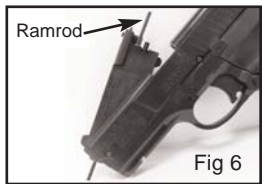

Fig 6
- Check to make sure the barrel is completely unloaded by pointing the muzzle in a SAFE DIRECTION with a light background and looking through the breach. If there is a pellet or BB in the barrel, push out of the muzzle end of the barrel using a ramrod of the proper size (Fig. 6).